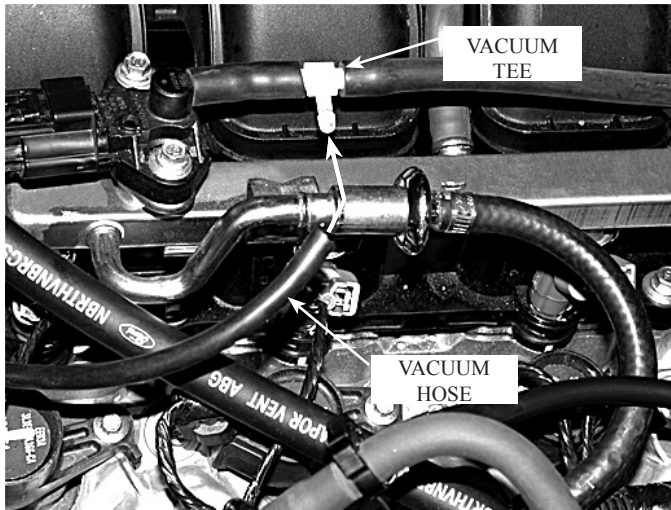

Fig. 8D-b
8. Attach a length of 5/32" vacuum hose to the previously installed bypass valve #1. Connect the open end to the previously installed vacuum line running to the fuel rail from bypass #2 using the TEE provided. (See Fig. 8D-c.)